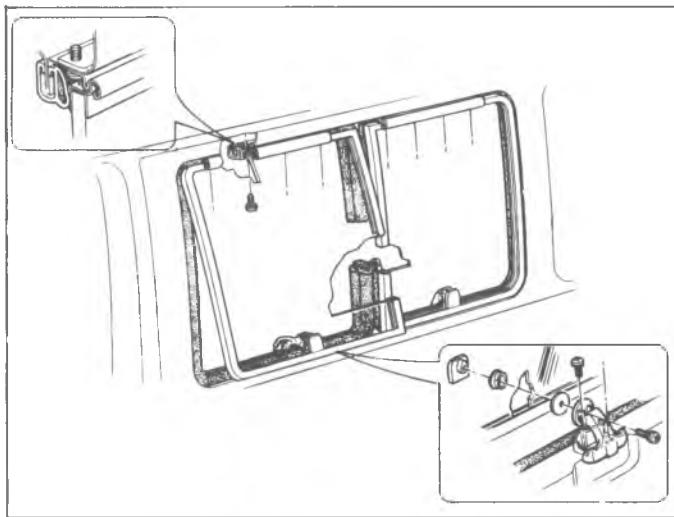

Fig. 11G—Swingout Window
1. Swing out the window. See figure 11G.